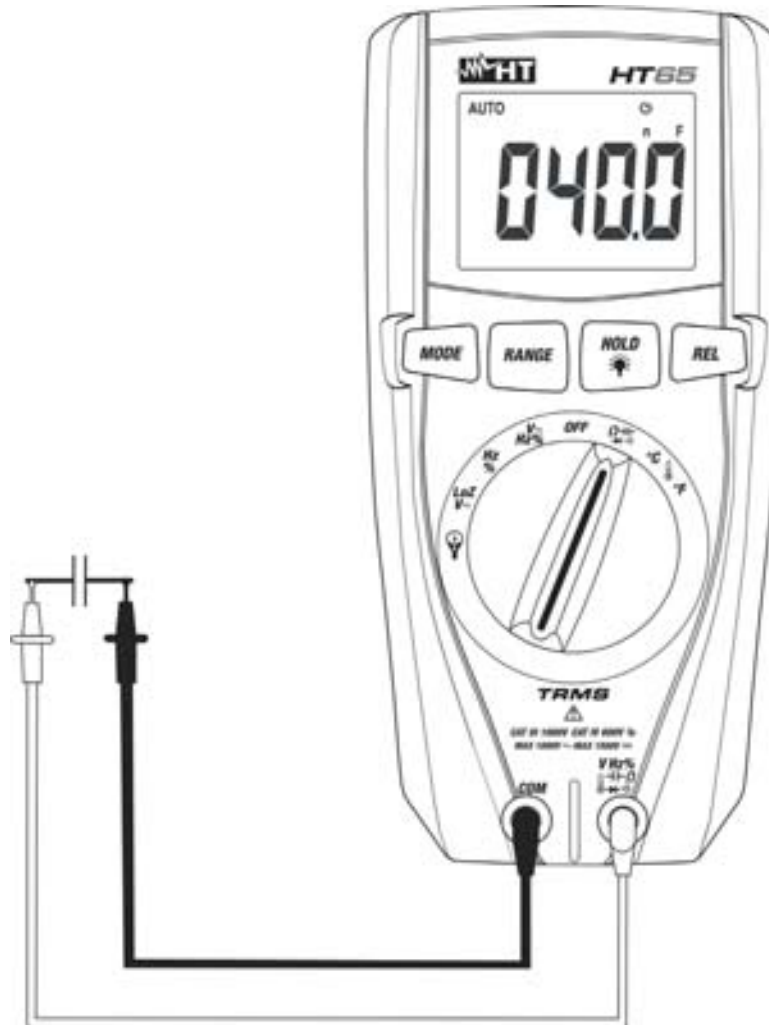

Fig. 8: Use of the instrument for Capacitance measurement
5. Position the leads at the ends of the capacitor to be tested, respecting, if necessary, the positive (red cable) and negative (black cable) polarity (see Fig. 8). The display shows the value of capacitance. **Depending on the value of capacitance to be measured, the instrument could take approx. 20s before displaying the final value**